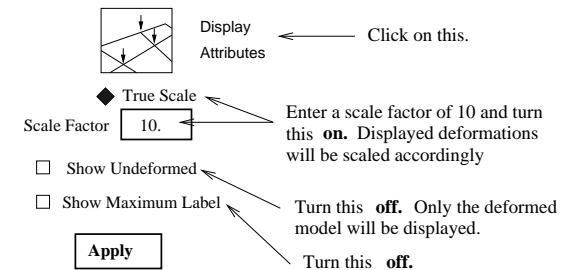

Figure 35: Change Display Properties
- Click on the 'Display Attributes' icon. Turn the 'Show Maximum Label' off (**Figure 35**). You will notice the value 0.1 in the box marked 'Scale Factor' and the radio button 'Model Scale' is selected. This means that the largest displacement in the mesh is scaled to be 10% of the maximum model size.